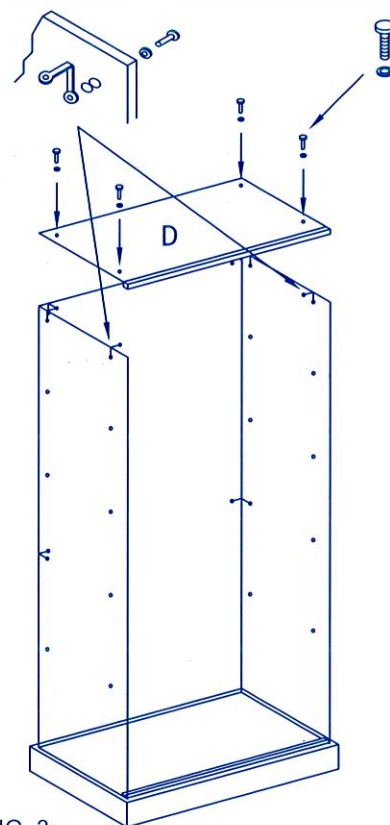

FIG. 3
- FIG. 3 APRES AVOIR VISSE LES ATTACHES A 2 VIS AUX COTES (C), PLACER LE TOP (D) ET LE VISSER AUX ATTACHES A 2 ET A 3 VIS MONTES EN PRECEDENCE.
- FIG. 3 AFTER HAVING SCREWED THE 2 AND 3 WAYS CORNERS TO THE LATERAL SIDES (C) PLACE THE TOP (D) AND SCREW IT TO THE 2 AND 3 WAYS CORNERS PREVIOUSLY ASSEMBLED.
- FIG. 3 NACH DER BEFESTIGUNG DER 2 WEGKLAMMERN AN SEITE (C), STELLEN SIE DEN DECKEL (D) UND SCHRAUBEN SIE ES AN DER 2 UND 3 WEGKLAMMERN, DIE IM VORAUSS MONTIERT GEWORDEN WAREN.
- FIG. 3 DESPUES DEL MONTAJE DE LOS LAZOS A 2 Y A 3 TORNILLOS A LOS LATERALES, PONER EL TECHO (D) Y ATORNILLARLO CON LOS LAZOS A 2 Y A 3 TORNILLOS MONTADOS ANTERIORMENTE.
- FIG. 3 DOPO AVER AVVITATO GLI ANGOLARI A 2 VIE SULLE SPALLE (C) APPOGGIARE IL CAPPELLO (D) ED AVVITARLO AGLI ANGOLARI A 3 VIE E AGLI ANGOLARI A 2 VIE PRECEDENTEMENTE MONTATI.